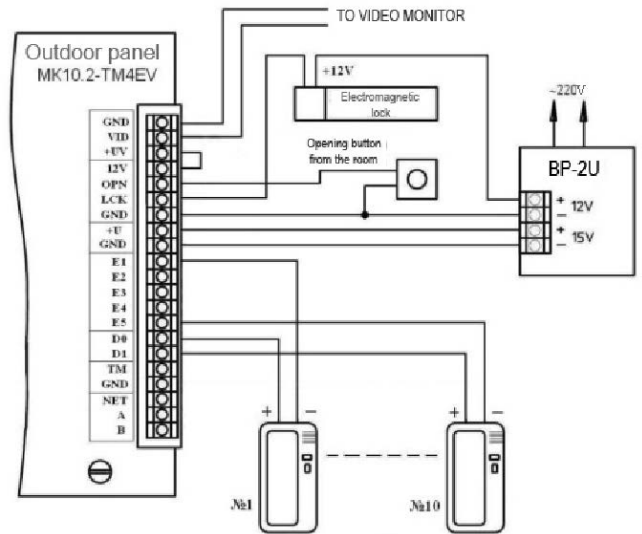

Fig. 2 Example of installation of the outdoor panel MK10.2-TMV
5. Install the wiring. Make taps from the loops and connect the TKP of all the subscribers. (Figure 2)
- NOTE: Items a ... g can be pre-made using a personal computer. In this case, the prepared information is transferred to the outdoor panel memory via the METAKOM MKA-02U adapter and the TM-key DS1996 (L).